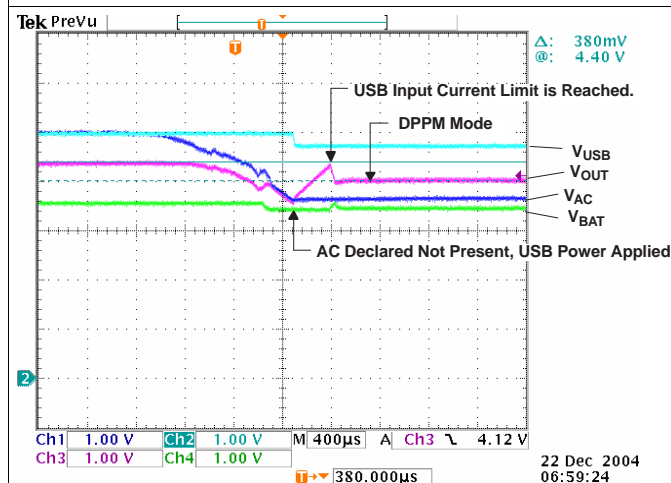

Figure 10. Remove AC – PWR XFER to USB
Figure 10 illustrates when AC is removed, power transfers to USB; PSEL = H (AC primary source); channel 1 (CH1) $V_{AC} = 5.4$ V; channel 2 (CH2) $V_{(USB)} = 5$ V; channel 3 (CH3) V_{OUT} ; output current, $I_{OUT} = 0.25$ A; channel 4 (CH4) $V_{BAT} = 3.5$ V; and $I_{(PGM-CHG)} = 1$ A. The power transfer from AC to USB only takes place after the primary source (AC) is considered bad (too low, $V_{AC} \leq V_{BAT} + 125$ mV) indicated by the ACPG FET turning off (open drain not shown). Thus, the output drops down to the battery voltage before the USB source is connected (6th div). The output starts to recover when the USB FET starts to limit the input current (7th div) and the output drops to the $V_{(DPPM-REG)}$ threshold.